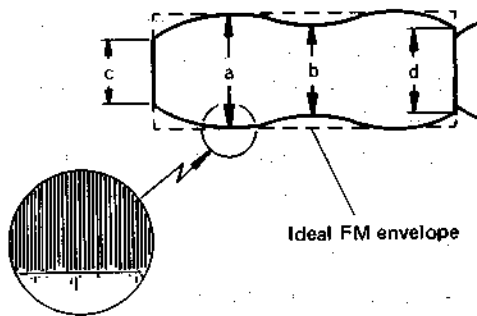

Fig. 2-4-8 FM waveform (max. output)
- 1) Play the alignment tape MH-1L (stairstep signal). Confirm that the FM waveform satisfies the specifications during playback of alignment tape MH-1. Refer to Fig. 2-4-8.